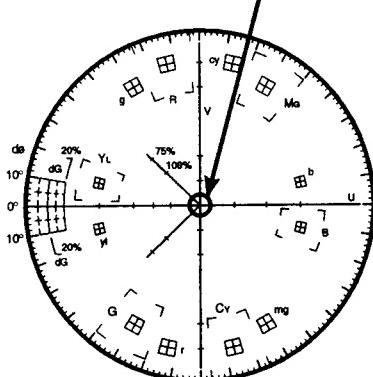

Fig. 5-1-10
- Adjust VR7 so that the vector positions at center of the Vectorscope as shown in Fig. 5-1-10.
- Adjust VR8 so that the vector positions at center of the Vectorscope as shown in Fig. 5-1-10.